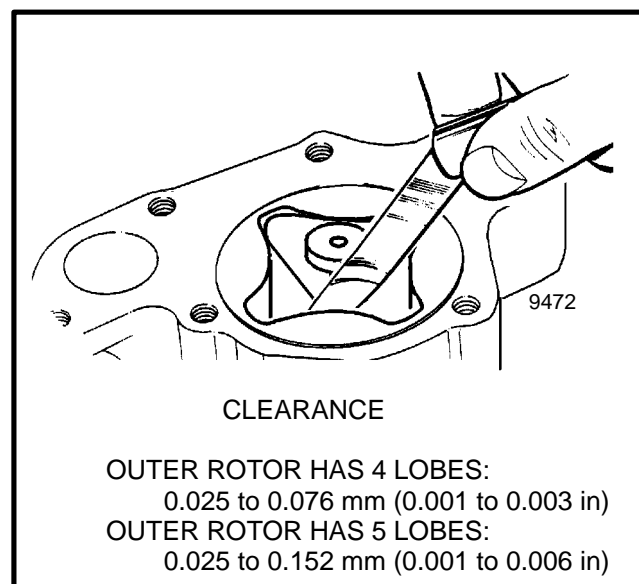
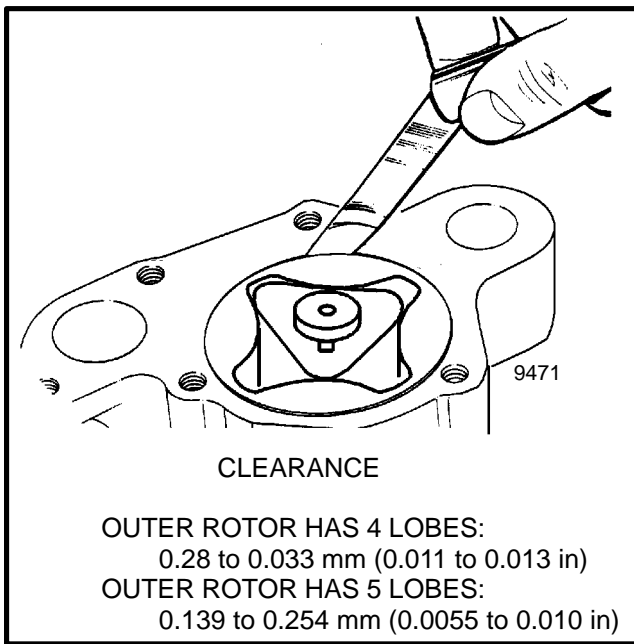

FIGURE 11. CHECK THE CLEARANCE BETWEEN ROTORS
FIGURE 12. CHECK THE CLEARANCE BETWEEN ROTOR AND BODY
Inspection (See FIGURE 11. and FIGURE 12.)
2. Check the clearance between the inner rotor and the outer rotor. See FIGURE 11.
3. Check the clearance between the outer rotor and the pump body. See FIGURE 12.